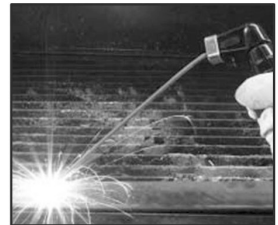

Fig. 5
1. Strike the electrode on the workpiece to create the arc and hold the electrode steady to maintain the arc (Fig. 5)